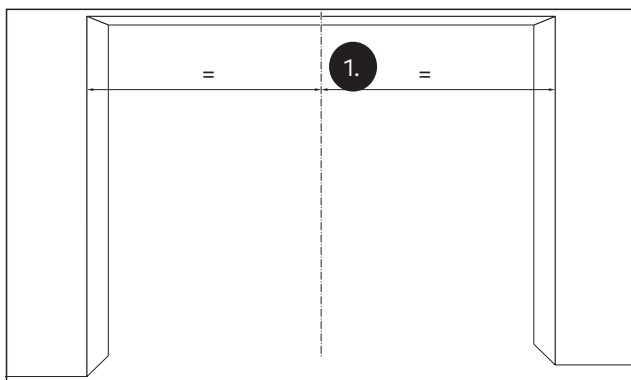

Fig. 6 Marking the center of the doorway
1. Mark the center of the doorway on the wall (Fig. 6).